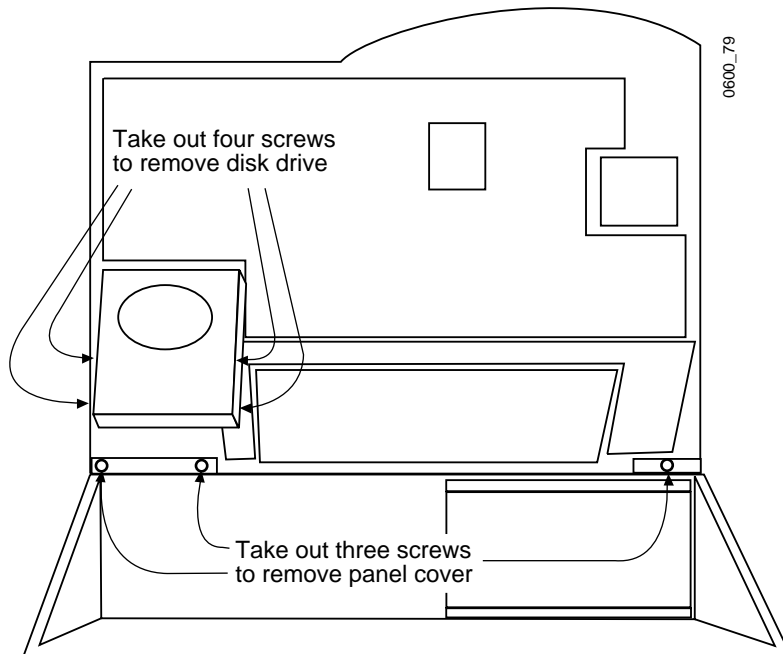

Figure 5-8. Inside Control Panel Screw Locations
3. Remove the two screws on each side of the disk drive. See *Figure 5-8 on page 5-15*